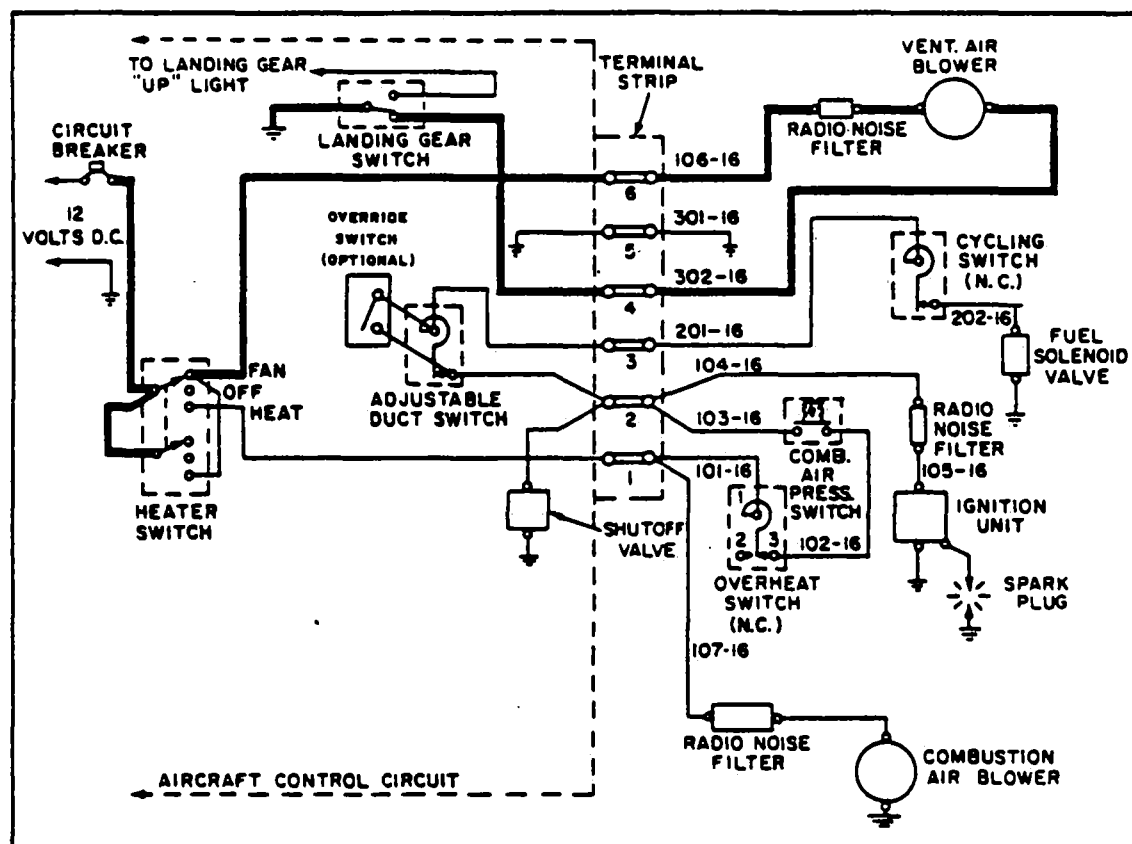

Figure 13-20. Primary Power Circuit
a. With the HEATER SWITCH in the FAN position, electrical continuity (12 volts nominal) should be present at the following locations. (Refer to Figure 13-20.)